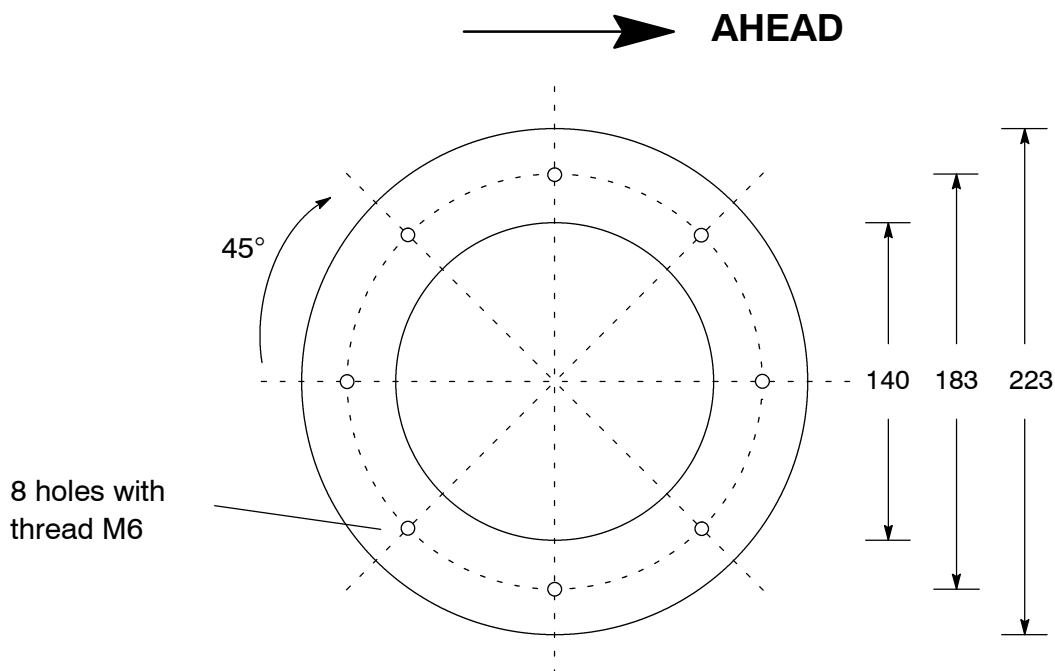

Fig. 6-6: Flange for Reflection Tube for Fastening on Metal Deck
- 3) Carry out the flange acc. to the following drawing, Fig. 6-6.